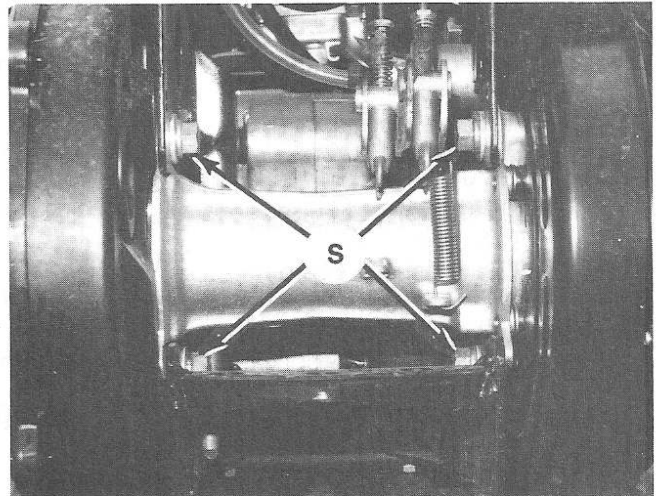
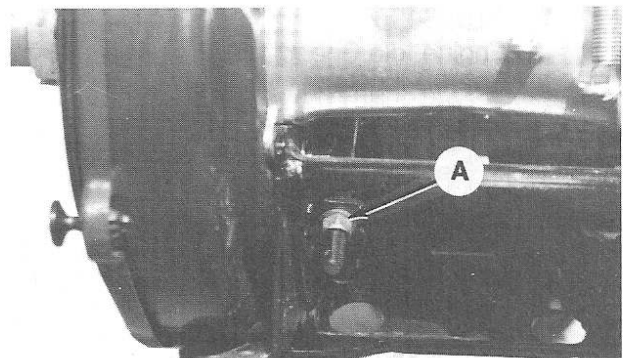

Fig. Y4-18—Loosen rear axle housing retaining screws (S) for chain adjustment on later models.
Fig. Y4-19—Rotate adjuster (A) to obtain desired chain tension on later models. Refer to text.
**ADJUSTMENT.** Remove the plug in the chain cover to view the drive chain. With both rear wheels on the ground, chain tension should be 5-10 mm (0.20-0.39 in.). To adjust chain tension, loosen rear axle housing screws (S—Fig. Y4-18). Turn chain tension adjuster (A—Fig. Y4-19) to obtain correct chain tension. Tighten axle housing screws and recheck chain tension.